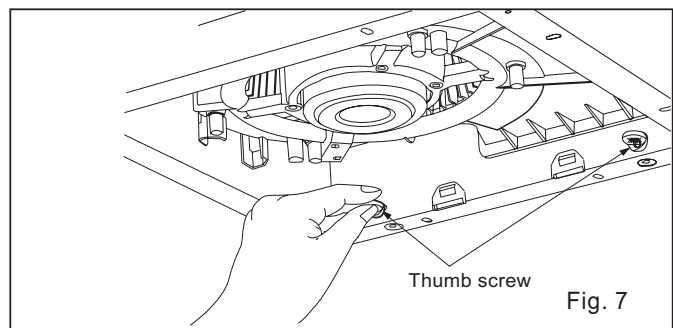

Fig. 7
8. Secure fan body to adaptor using two thumb screws.(Fig.7)
9. Mount the fan body with thumb screw (on the right side of bottom of the adaptor) as shown in Fig.7.
- (13) Mount the fan body with thumb screw (on the right side of bottom of the adaptor) as shown in Fig.7 of page 7.